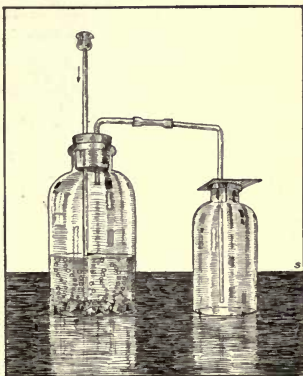

FIG. 69. Collecting carbon dioxid.
**Exercise 5.** Put into a bottle, arranged as shown in Figure 69, small pieces of marble or limestone. Pour dilute hydrochloric acid into the bottle through the thistle tube. Carbon dioxid is evolved at once and may be collected over water or by downward displacement of air (Fig. 69).
dioxid generator (Fig. 69) in such a way that the gas escapes into the water. A white cloud, or turbidity,\* appears in the limewater.